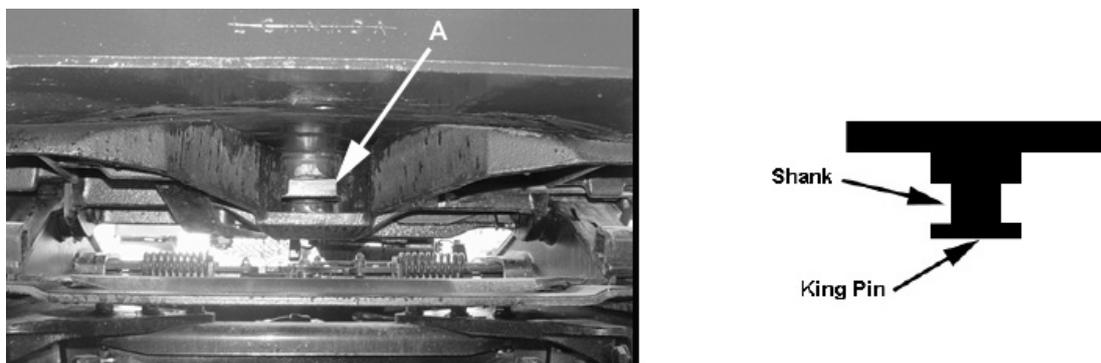

Figure 3-4 Fifth Wheel Jaws Closed Around Kingpin Shank
10. Go under the trailer with a flashlight and look into the back of the fifth wheel. Verify the fifth wheel jaws (A) have closed around the shank of the kingpin and the fifth wheel lock lever is in the locked position. See figure 3-4.